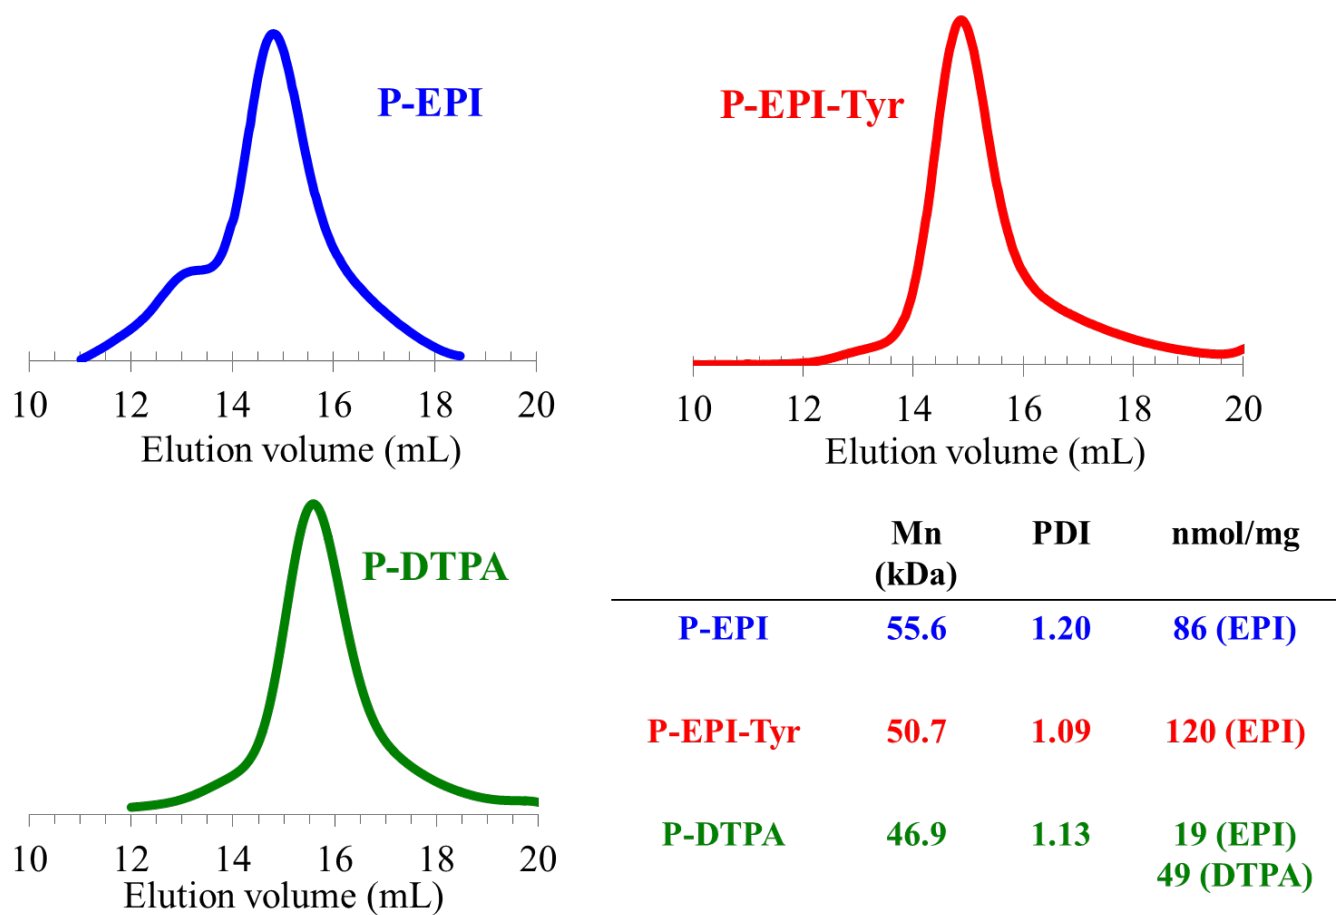

Fig. S10. FPLC analysis and characterization of copolymer conjugates P-EPI (blue) and P-EPI(Tyr) (red).
4. FPLC analysis and characterization of copolymer conjugates P-EPI, P-EPI(Tyr) and P-DTPA	(Fig. S10)